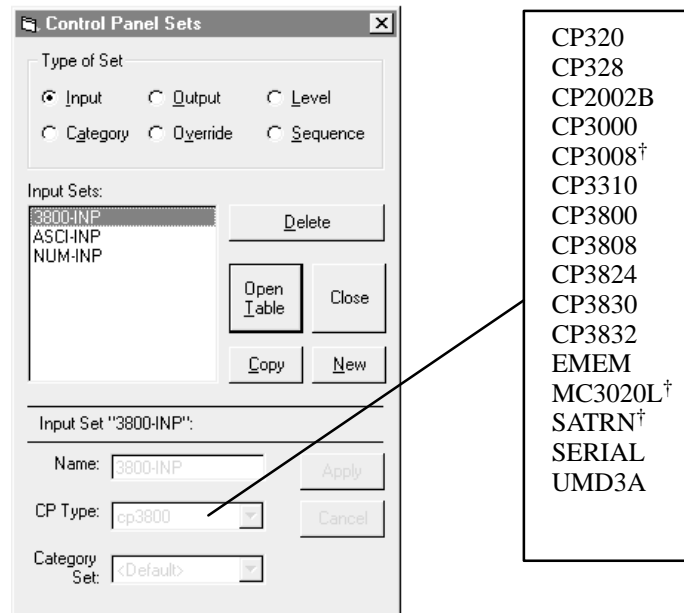

Figure 5–51.
- If **CP 2002**, **CP 3000**, or **CP 3800** is selected, clicking on “Apply” and “Open Table” will open a blank version of the table shown in Figure 5–52. These are 20–category panels. Go to Step 9.
- If **CP 320**, **CP 328**, or **CP 3808** is selected, clicking “Apply” and “Open Table” will open a blank version of the table shown in Figure 5–52. These are 16–category panels. Go to Step 10.
- If **CP 3824** is selected, clicking on “Apply” and “Open Table” will open a blank version of the table shown in Figure 5–52. This is a 15–category panel. Go to Step 10.
- For **CP 3830** panels, select type “CP 3830.” Clicking on “Apply” and “Open Table” will open a blank version of the table shown in Figure 5–52. This is a 12–category panel. Go to Step 10.